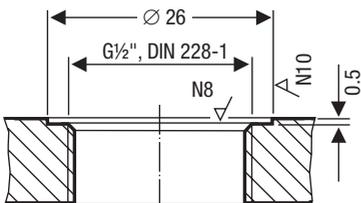

Fig. 2
1. Check seating surface **Fig. 2**.
2. Put the supplied joint ring onto the sealing surface **Fig. 2 ③**.